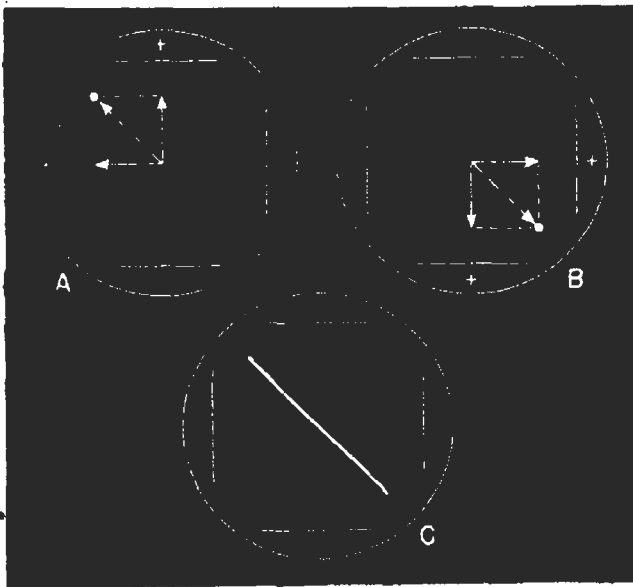

FIG. 5. Applying the same identical voltage to both sets of deflecting plates produces a tilted line.
► The great value of the c.r.o. does not lie in measuring voltages, however, but in making visible the actual form of an a.c. wave. You might reason that we could apply the a.c. voltage to both sets of plates at the same time. This makes one plate of each pair positive at the same instant, as shown in Fig. 5*A*. The electron beam is pulled to the left and upward at the same time, so it moves along the diagonal to the
upper left. When the polarities reverse, we have the condition shown in Fig. 5*B*. Thus, we have formed a diagonal line as shown in Fig. 5*C* instead